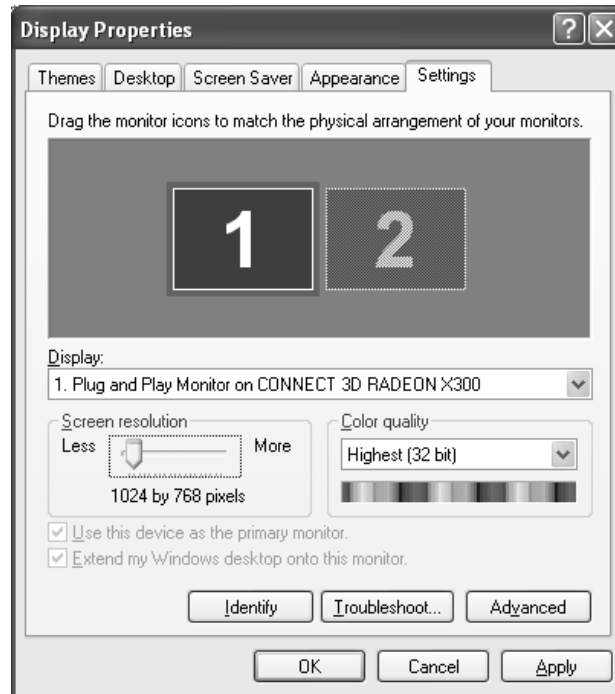

Figure 78. Display Properties window
3. Select the Settings tab (see Figure 78).